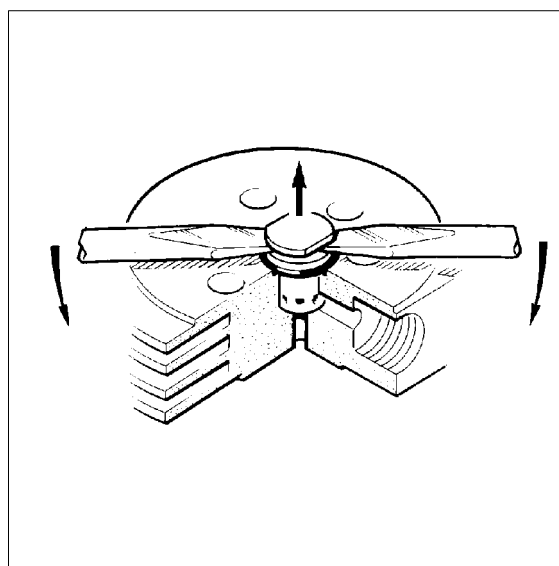

Fig. 20 Removal of 3rd stage pressure valve
- Remove acorn nut (1), unwind stud (3) up to three or four turns.
- Remove internal hex. screw (9) fixing valve head (7), take off valve head cover (8).
- Put two screwdrivers into the groove of outlet valve body, see Fig. 20. If necessary loosen valve at first by using a 13 mm spanner on the flat surfaces.
- Lift out pressure valve (5) together with O-ring (4).